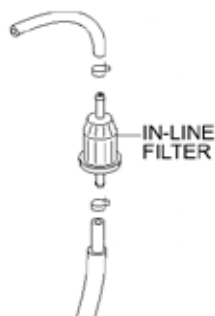

Figure 16. In-Line Fuel Filter
- Inspect in-line fuel filter (Part Number 16910Z4ES21, Figure 16) and replace if necessary.